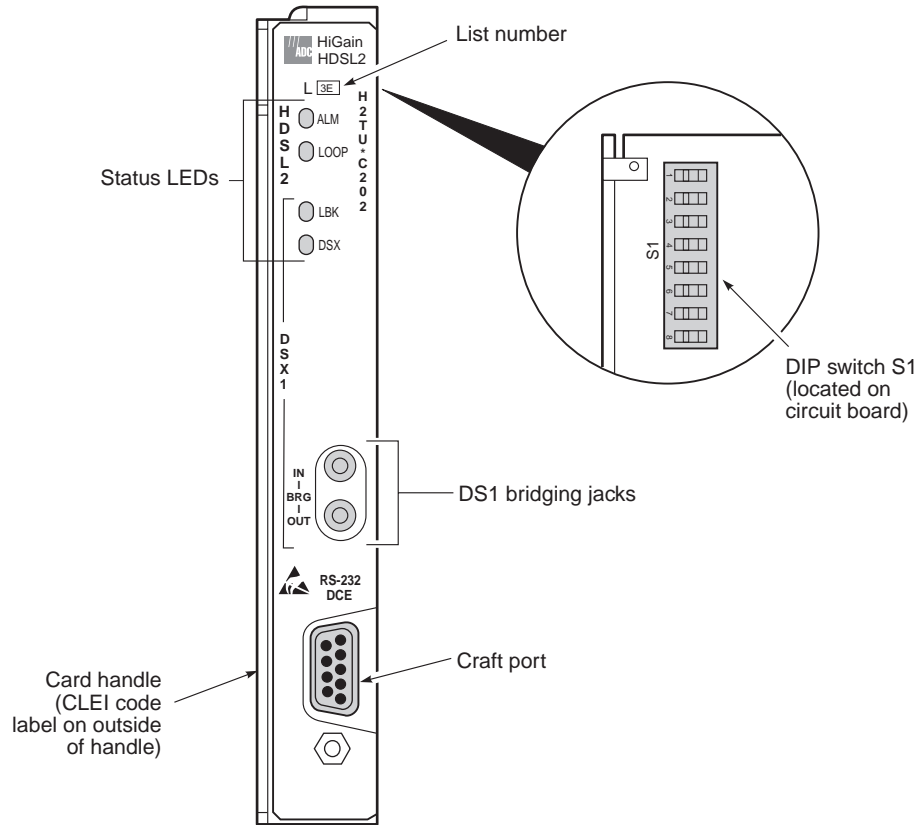

Figure 2. H2TU-C-202 List 3E Front Panel
Figure 2 shows the H2TU-C-202 List 3E front panel. Table 1 on page 5 describes the front-panel components. For pinout diagrams of the H2TU-C card-edge connector and craft port, refer to “Appendix A - Specifications” on page 53.
- 1 Connect a standard 9-pin terminal cable to the RS-232 craft port (Figure 2 on page 4) on the H2TU-C-202 front panel.